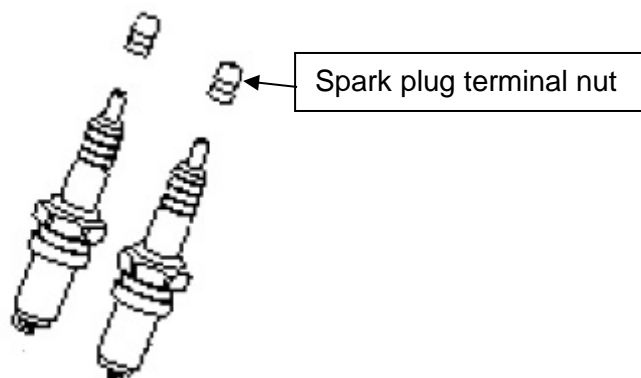

Figure 35 – Spark Plug Terminal Nut
- Recommended Plugs: NGK D9EA. Note that spark plug terminal nuts must be used (Figure 35)